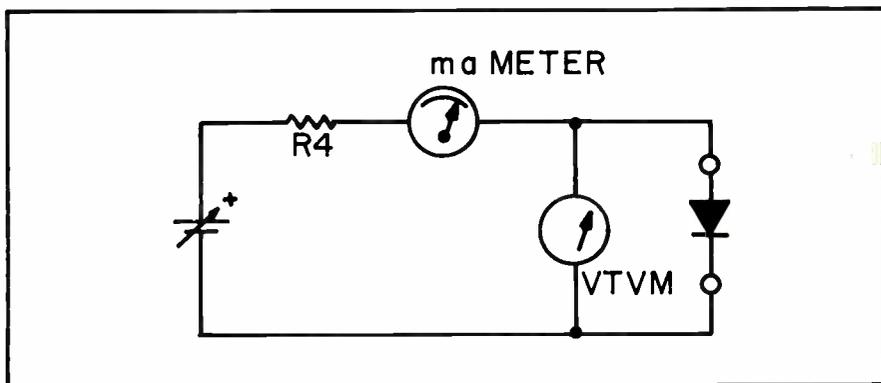

Fig. 4—Circuit for measuring V_F .
The schematic in Fig. 4 is used to measure the forward voltage with a variable constant voltage source. R_4 is a limiting resistor which protects the meter against shorted devices. Its value should be selected as previously described for I_{CBO} . Since the diode in the forward direction has low impedance, the VTVM could be replaced with a $20,000\Omega/v$ meter if desired.
1. Insert the unit to be tested in the socket with the anode and cathode as shown in Fig. 4.
The same circuit configuration shown in Fig. 4 is used to make the reference voltage measurement. The meter's current range should be selected slightly higher than the